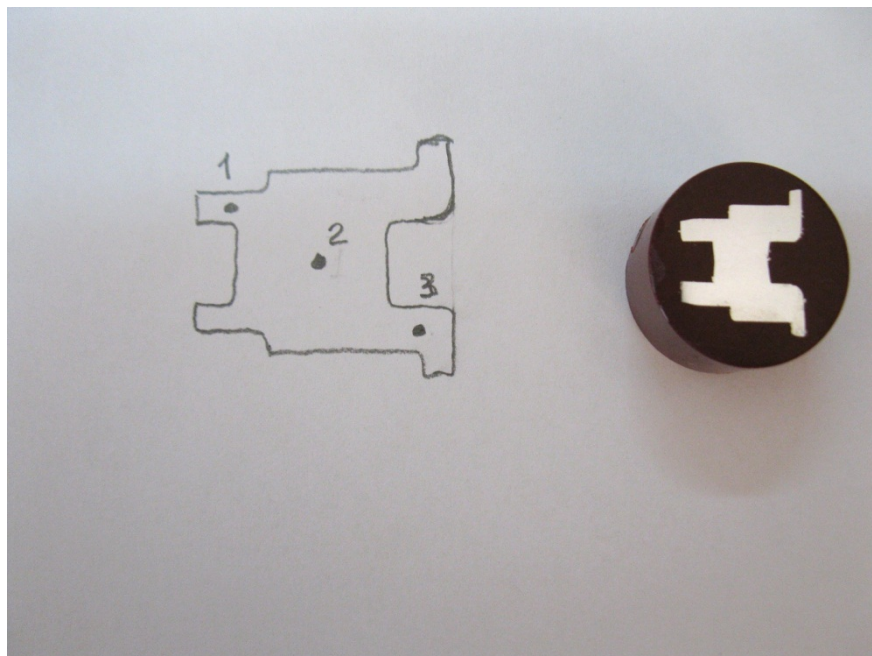

Fig . 2 Microhardness test points.
Vickers microhardness (HV) was measured on the longitudinal axis by applying a load of 100g for 15sec (see Fig.2).